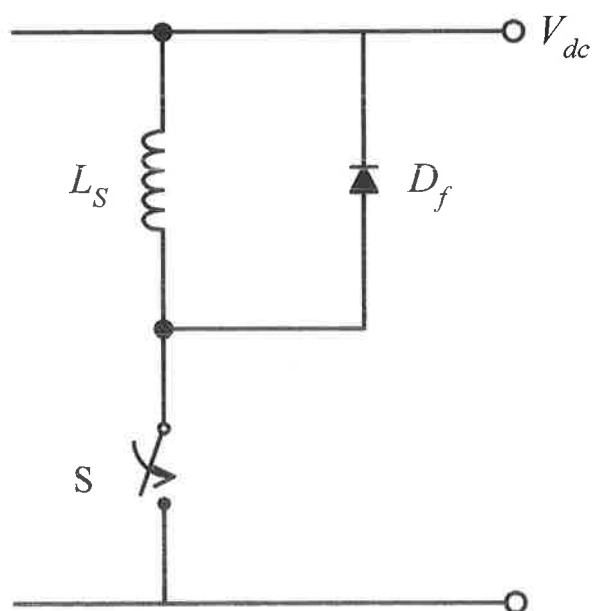

Fig. 1
1. Fig. 1 shows a simplified inductive switching circuit for a high voltage system such as a Switch Mode Power Supply (SMPS).